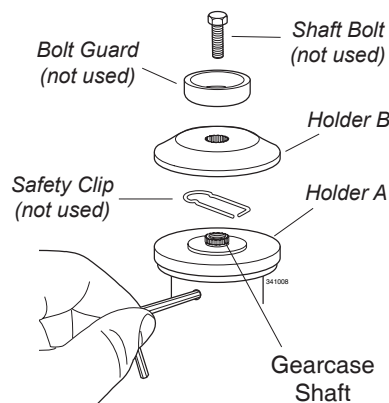

Figure 16
1. With the gearcase output shaft facing up, rotate the gearshaft and Holder A until the hole in Holder A aligns with the matching hole in the gearcase flange, and then lock the holder to the gearcase by inserting the long end of the hex wrench through both holes. See Figure 16.
2. Using the combination spark plug/screwdriver wrench, remove the shaft bolt, bolt guard, Holder B and the safety clip. (The bolt guard, shaft bolt and safety clip are not used with a trimmer head). See Figure 16.